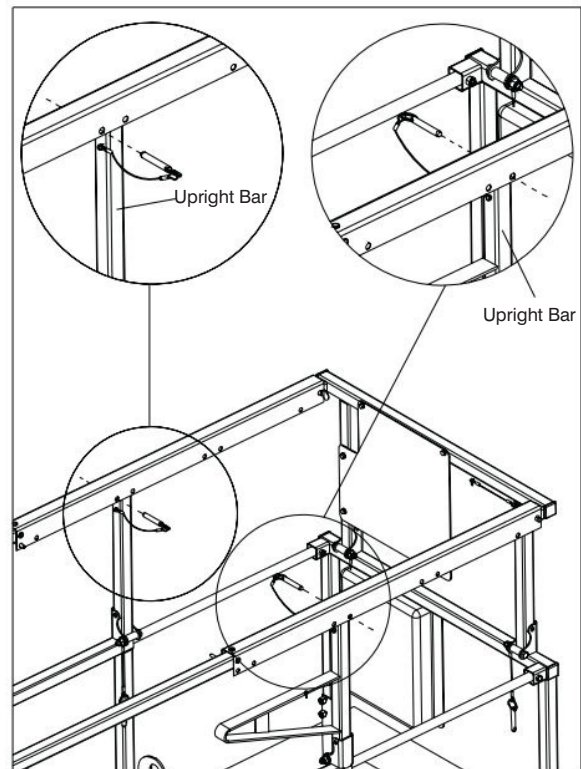

Figure 3-10. Variable Position Manual Extension Platform
2. Upon extension or retraction, reinsert locking pins. Insert pin on one side of aerial platform in front of upright bar and the pin on the other side of aerial platform behind the upright bar to prevent accidental movement, in either direction, of manual extension platform during travel or transport. Refer to Figure 3-10 for a configuration example.